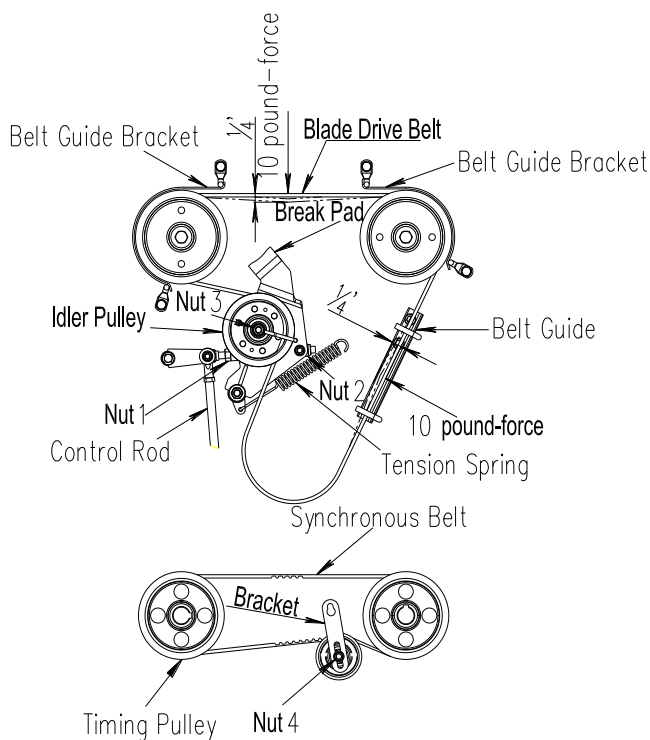

FIG 9
- Remove the belt cover. Adjust the mower deck belt using a belt tension gauge. Engage the blade drive lever, tension the mower belt, and adjust the belt so that the belt moves 1/4" with 10 pounds of pressure. Adjust the tension by tightening or loosening the nut (Nut 1). (See FIG 9).
deflection is 7-9mm ) (See FIG 9)
- Remove blade transmission belt according to reference method 5.2.2, then loosen nut in the idler pulley, take the synchronous belt from the axis pin, then install the new synchronous belt in reverse order. (See FIG9)
- Remove the belt cover, turn the shift arm, move shift arm away from pulley, remove bolts and nuts, replace with new brake pad, install bolts and nuts, and make blade brake pad aim at the belt pulley groove center, then screw down the nut. Test blade brake system; blade brake pad can make rapid rotary blades stop running in 3 seconds. (See FIG 9)